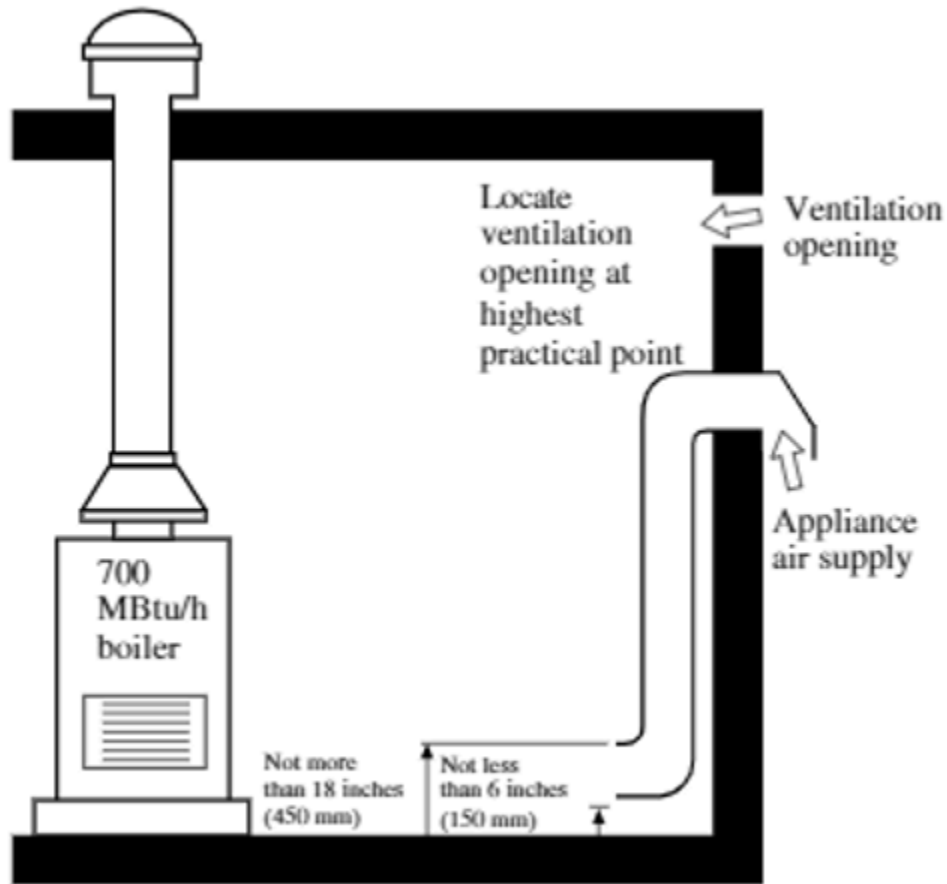

Figure 7. Air supply duct location
The air supply shall be located not less than 6 in. (150 mm) or more than 18 in. (450 mm) above the mechanical room floor (Figure 7).
- Figure 7. “Air supply duct location” by Camosun College is licensed under a CC BY-NC-SA licence (<https://creativecommons.org/licenses/by-nc-sa/4.0/deed.en>).